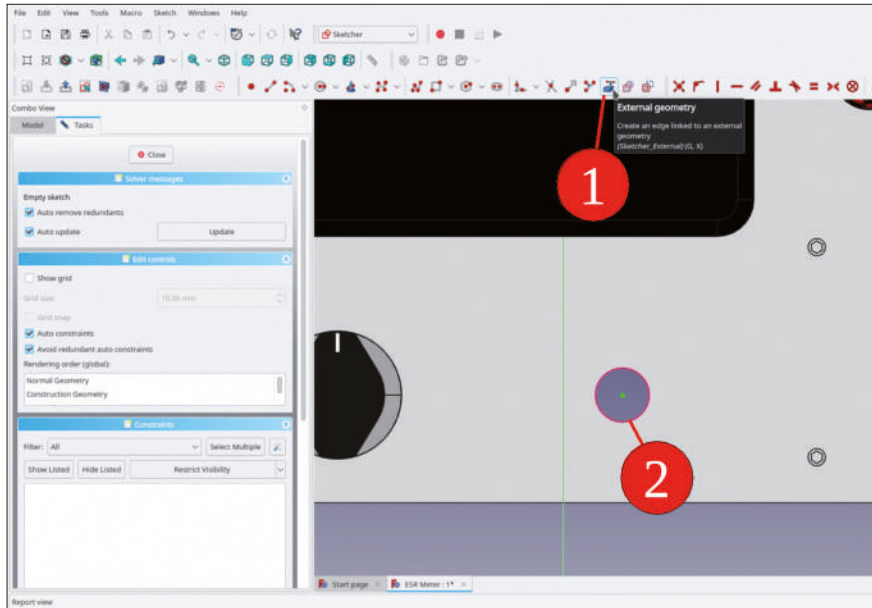

Figure 8-17
3. Click on the 'External geometry' tool button and mark the edge of the mounting hole for the potentiometer (Figure 8-17).